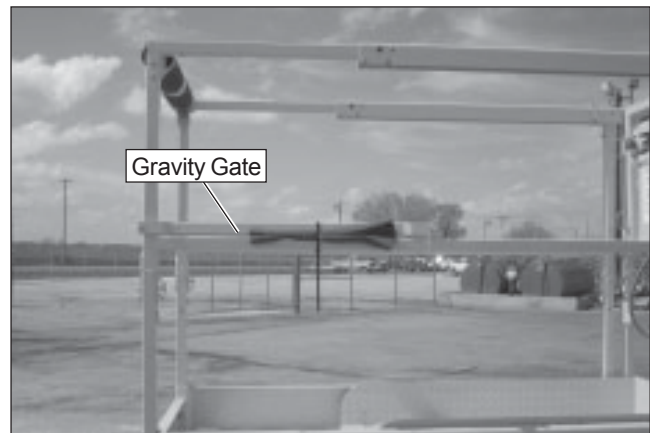

Figure 9.6 – Gravity Gate
1. Remove the pin from the gravity gate. Fasten the gravity gate to the mid rail on the right side of the platform (refer to Figure 9.6).